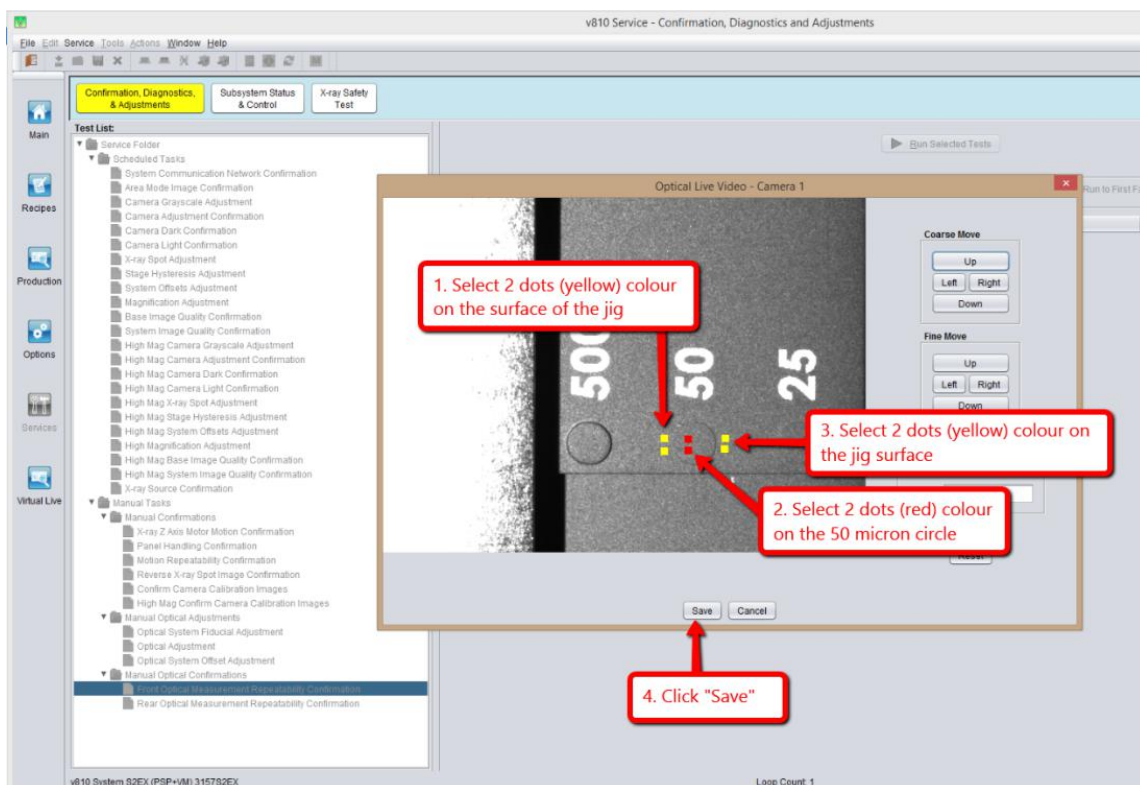

Figure 45 Adjustment Point
32. Select the points of the adjustment dot as shown in the Figure 45 before proceed with the Step 33